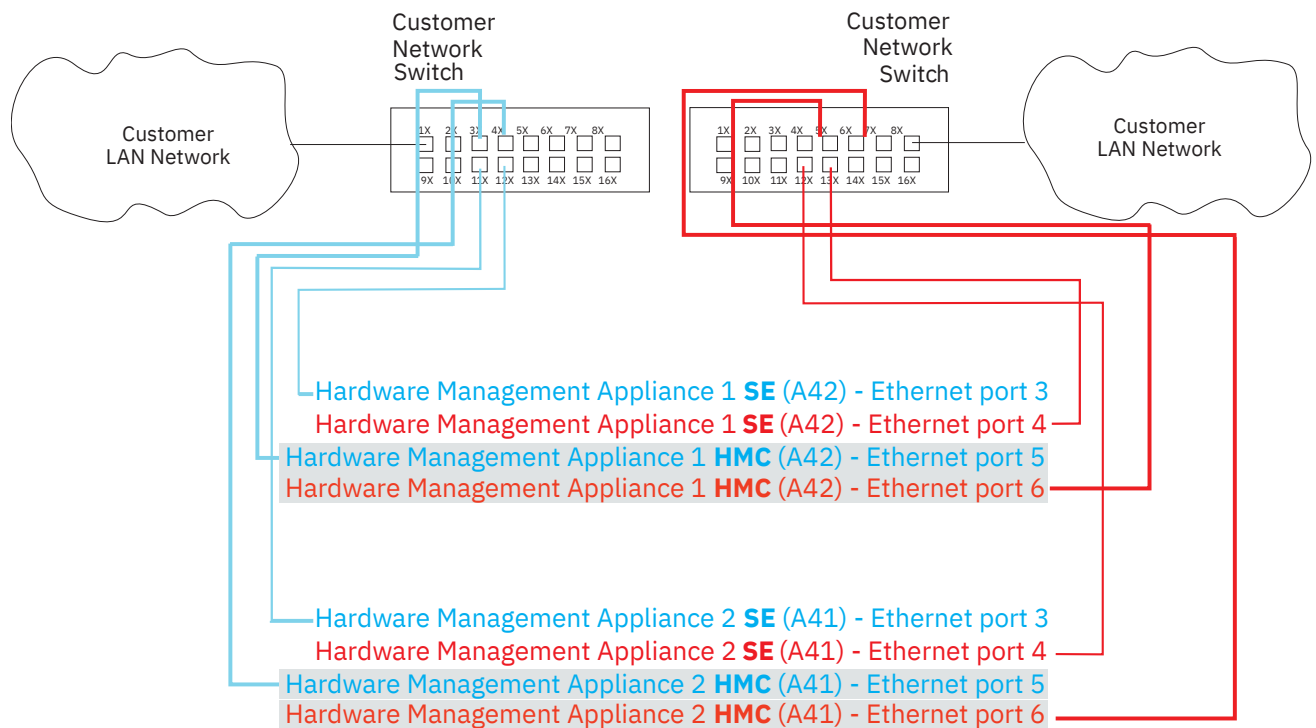

Figure 33. Two-switch configuration with Hardware Management Appliance (FC 0355)
If the Hardware Management Appliance feature (**FC 0355**) is ordered on the 9175, the dual 1U servers function as a Support Element (SE) and a Hardware Management Console (HMC). See Figure 33 on page 137 for network connection requirements.